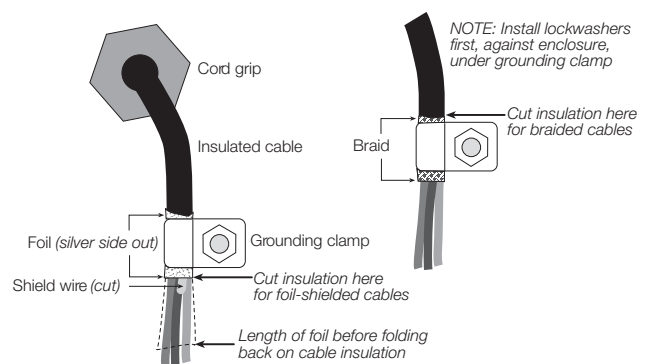

Figure 2-1. Grounding Clamp Attachment for Foil-Shielded and Braided Cabling
- For cables with foil shielding, strip insulation and foil from the cable half an inch (13 mm) past the grounding clamp (see Figure 2-1). Fold the foil shield back on the cable where the cable passes through the clamp. Ensure silver (conductive) side of foil is turned outward for contact with the grounding clamp.
- For cables with braided shielding, strip cable insulation and braided shield from a point just past the grounding clamp. Strip another half inch (15 mm) of insulation *only* to expose the braid where the cable passes through the clamp (see Figure 2-1).
clamps as shown in Figure 2-1. Tighten grounding clamp nuts.